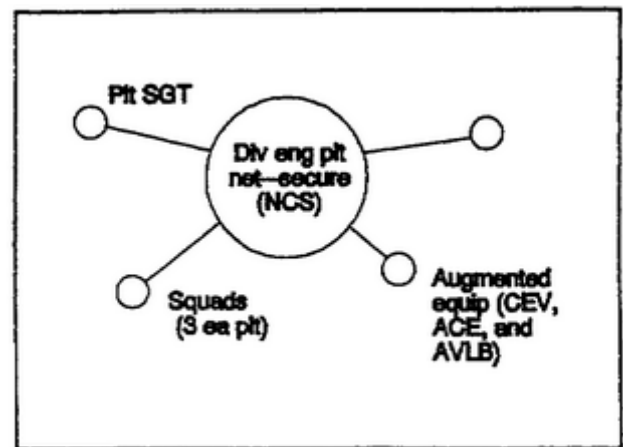

Figure 3-10. Division engineer platoon net-secure.
- (f) Division engineer platoon net-secure (Figure 3-10) (18 each division).